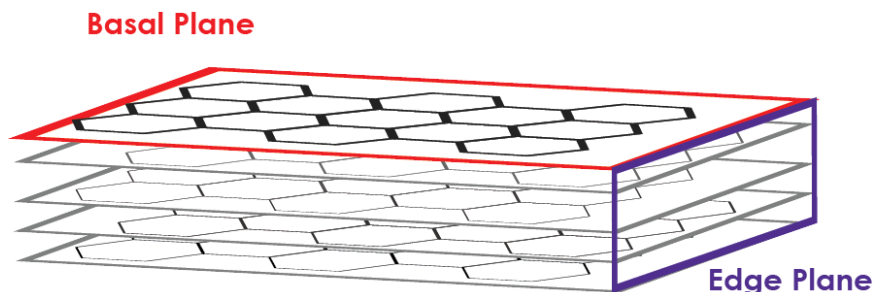

Figure 1. Pyrolytic Graphite Basal and Edge Planes
Pyrolytic graphite (PG) is a highly oriented form of graphite material manufactured through chemical vapor deposition. Chemical vapor deposition is a process by which molecules are grown atom-by-atom; for PG,  $sp^2$  hybridized carbon atoms form covalent bonds with other  $sp^2$  hybridized carbon atoms to make a flat, hexagonal structure called a graphene sheet. Multiple layers of graphene sheets are constructed during the process, and the layers are held together through weak interactions between unhybridized  $p_z$  -orbitals of adjoining carbon atoms. The PG electrodes from Pine Research Instrumentation are manufactured from large pieces of PG and cleaved either along the basal or edge plane (see Figure 1).